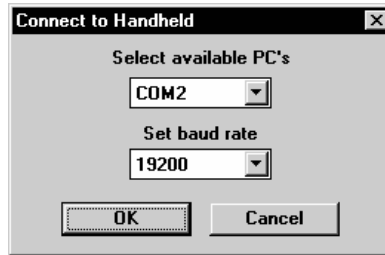

Figure A.6: Connect to Handheld Dialog Box
2. Choose **Connect** from the **Handheld** menu or click the **Connect** button. The Connect to Handheld dialog box opens, as shown in Figure A.6.